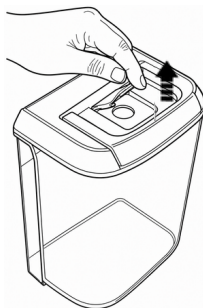

Fig. 5
2. Grip and lift to open the filler cap (Fig.5)